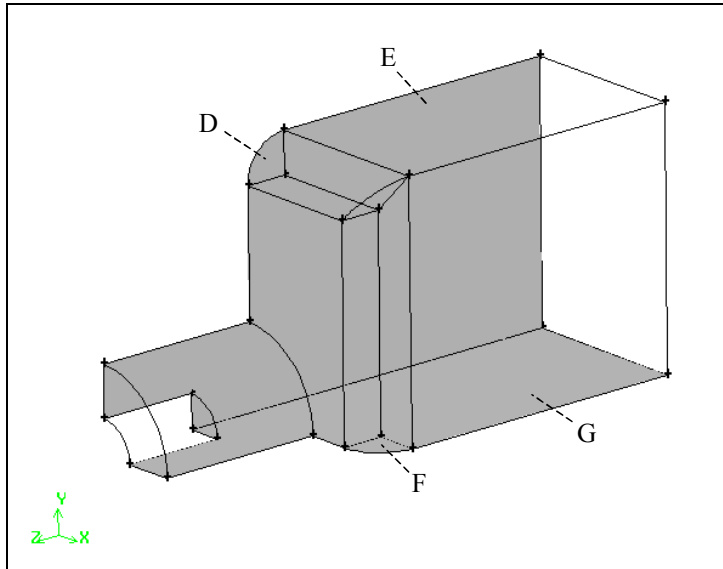

Figure 4-36: Boundary-type faces for the burner—symmetry
- iii. Select the two faces on the left side of the geometry as you look at it from the front (the faces marked D and E in Figure 4-36). Accept the selection of the faces.
- ii. Check that SYMMETRY is still selected in the **Type** option menu and select the two faces on the bottom of the geometry (the faces marked F and G in Figure 4-36). Accept the selection of the faces.